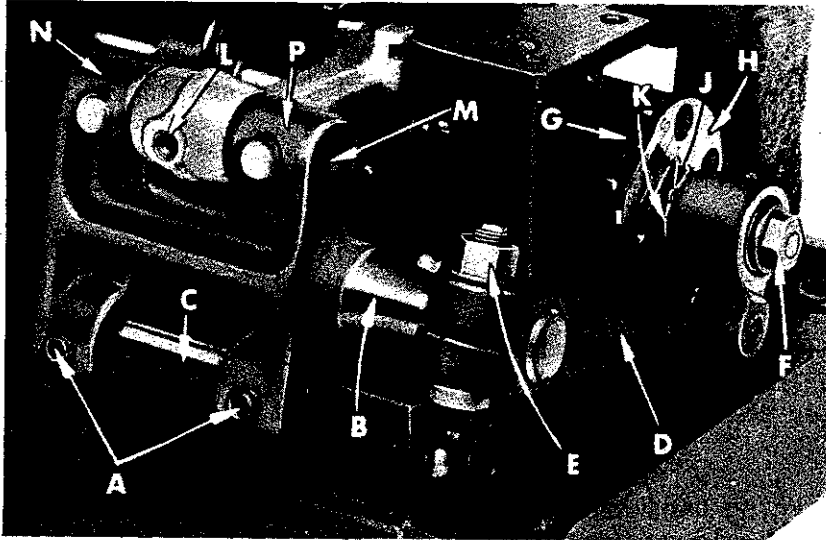

Fig. 11
Right to left adjustment can be made by loosening screws (A, Fig. 11) and slightly move feed rocker (B) on feed rocker shaft (C) as required, then retighten screws. Check to ensure that feed rocker arm (D) does not bind after adjustment.
Forward or rearward centering of feed dog can be accomplished by loosening nut (E, Fig. 11), move feed rocker (B) as required and retighten nut.
Set the stitch to required length. This is accomplished by loosening lock nut (F, Fig. 11) $\frac{1}{2}$ turn, (it has a left hand thread) on the end of the stitch regulating stud and turning stitch adjusting screw (G) located under the left end of the cloth plate in the head of the mainshaft (H), which is marked with "L" and "S". Turning the screw in a clockwise direction shortens the stitch (moves stitch regulating stud toward the "S") and turning it in a counterclockwise direction lengthens the stitch (moves stitch regulator stud toward the "L"). Retighten the lock nut securely. To prevent destructive damage to the feed drive bearing, key screw (J) must engage the "U" shaped key slot in ferrule (K).
The feed rocker assembly may require lubrication and repair after years of operation. This can be accomplished as follows: Loosen nut (E, Fig. 11) and remove nut (F). Remove feed rocker arm (D) from machine by rocking slightly. Loosen screws (A) and remove stop collar on right end of shaft (C). Shaft can now be withdrawn. Loosen Allen screw (L) and remove shaft (M). Now repack bearings.
When packing bearings, parts must be clean and grease should be applied directly from the tube to avoid contamination. Tube of grease can be supplied under part No. 28604 P. Greased bearings are located at (N, P, Fig. 11). If -crease sealed bearings are replaced, they should be pressed in flush with the casting. To assemble, start tapered end of shafts first, twisting slightly when entering the grease seals to prevent damage. Check for proper adjustment of feed dog as described under the "Feed Dog Settings". Also check to see that there is no binding at any point.